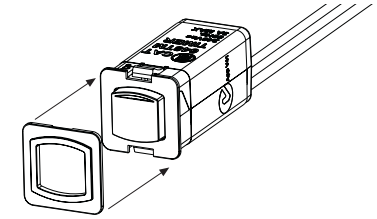

Figure 4: Front Cover Installation
1. Select the appropriately coloured front cover from the enclosed assortment and snap onto the front of the timer as shown in figure 4.